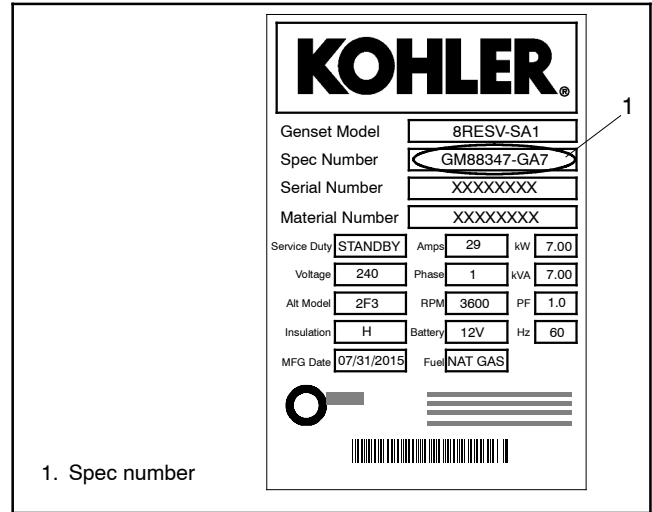

Figure 3-1 Name Plate
Note: The reduced minimum clearance from a structure contained in ADV-8774 and ADV-9739 only applies to generators that are compliant with clause (2) of section 4.1.4 of NFPA 37. To verify that the generator is compliant, check the **Specification Number** located on the generator name plate. See Figure 3-1. If the name plate displays one of the following specification numbers, then the generator is compliant with clause (2) of section 4.1.4 of NFPA 37 and the reduced clearance in ADV-8774 (Figure 3-5) and ADV-9739 (Figure 3-8) will apply.